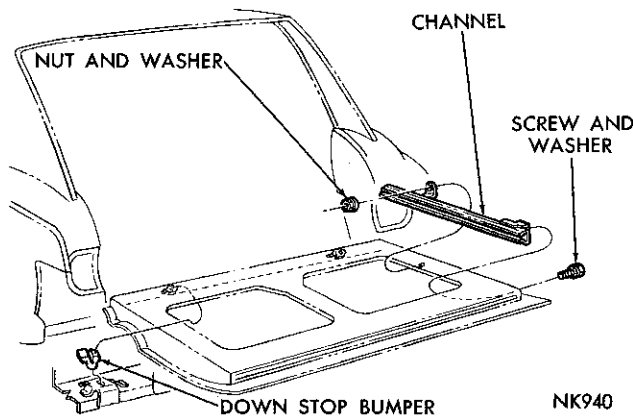

Fig. 116—Tail Gate Glass Run Channel
- (1) Remove the tail gate glass assembly.
- (2) Remove the screw and washer assembly from the upper end of the glass run channel (Fig. 116).
- (3) Remove the nut and washer attaching the glass run at the lower mounting bracket.
- (4) Remove the glass run channel assembly.